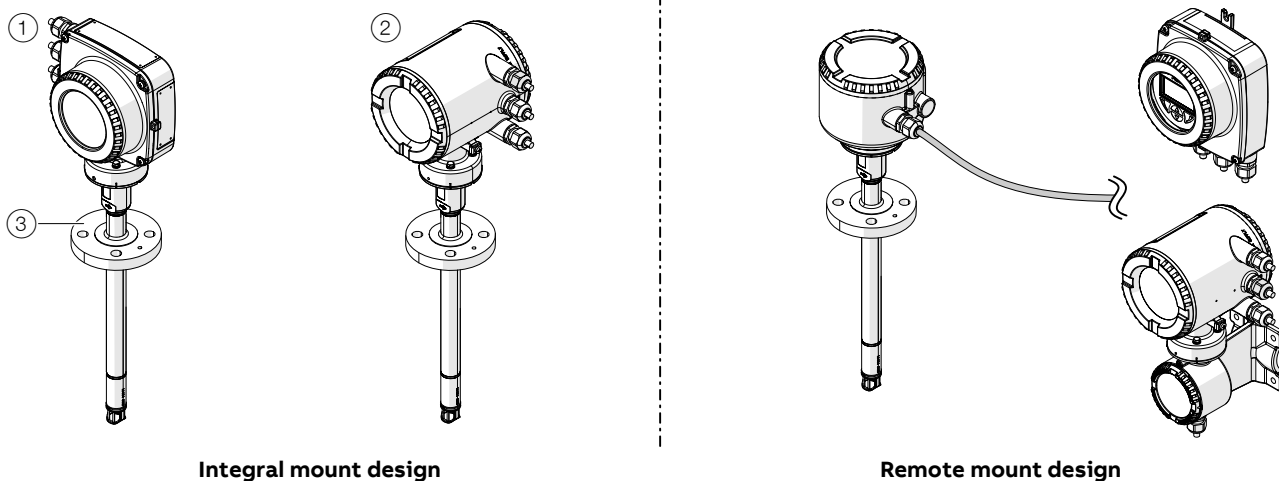

Figure 1: Sensor FMT430, FMT450 (example)
Design	Integral mount design (see "Figure 1" on page 1), remote mount design; Transmitter optionally available in single-compartment housing ① or dual-compartment housing ②